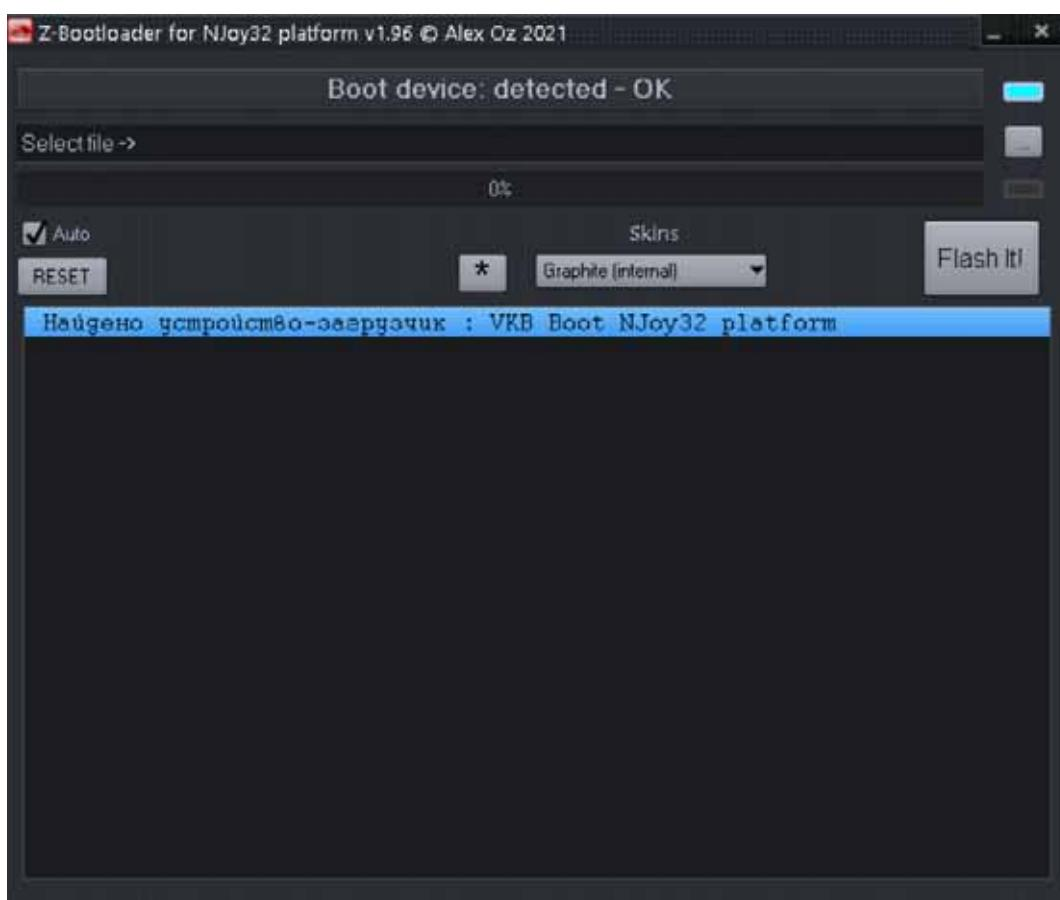

Fig. 2.3.
You will see firmware upgrade utility window (fig. 2.3).
5. You will see that device is connected (Fig. 2.3 on p. 20). Further actions are the same as described in sect. 2.2.1 on p. 20.